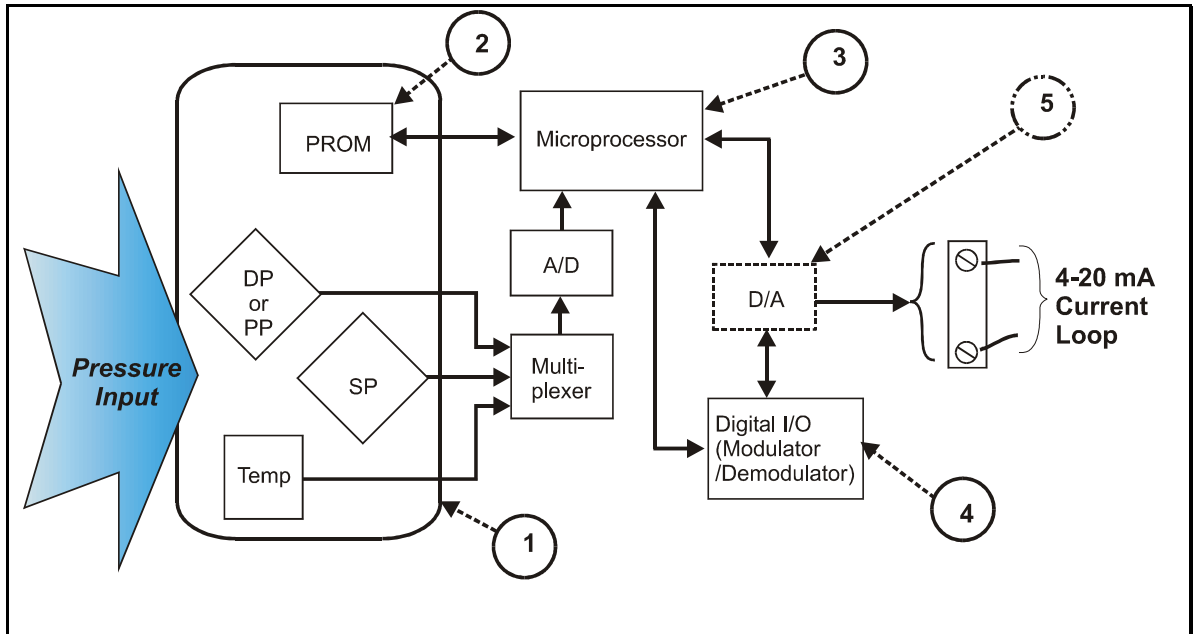

Figure 6 Honeywell (HART) Transmitter Diagram
As the diagram in Figure 6 shows, the Honeywell HART Transmitter is virtually identical to non-HART transmitters, except that the HART version includes a Digital I/O Modulator/Demodulator block (key number ④) instead of the Honeywell DE communications block.